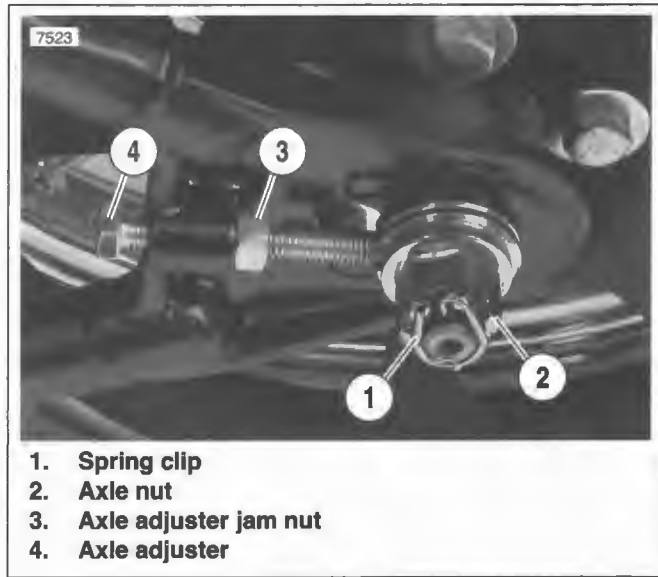

Figure 1-34. Axle Adjusters
1. See Figure 1-34. Remove spring clip (1) and loosen axle nut (2) and jam nut (3).
2. Adjust belt tension by turning the axle adjusters (4) an equal number of turns to keep the wheel aligned until the specification in step 2 is achieved.
3. Tighten axle adjuster jam nuts (3) to 15-20 ft-lbs (20.3-27.1 Nm). Check that rear wheel is properly aligned. See 2.14 VEHICLE ALIGNMENT.